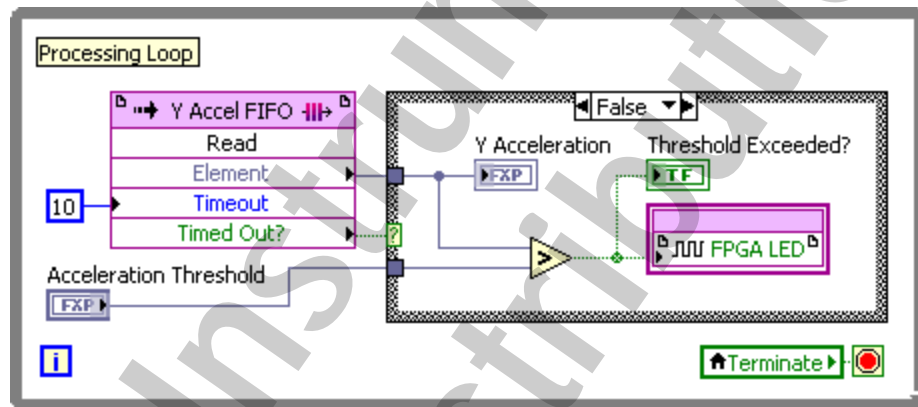

Figure 6-5. Accelerometer VI – Processing Loop
- 8. Modify the Processing Loop, as shown in Figure 6-5, using the following items:
- ❑ **Wire the Processing Loop** as shown in Figure 6-5.